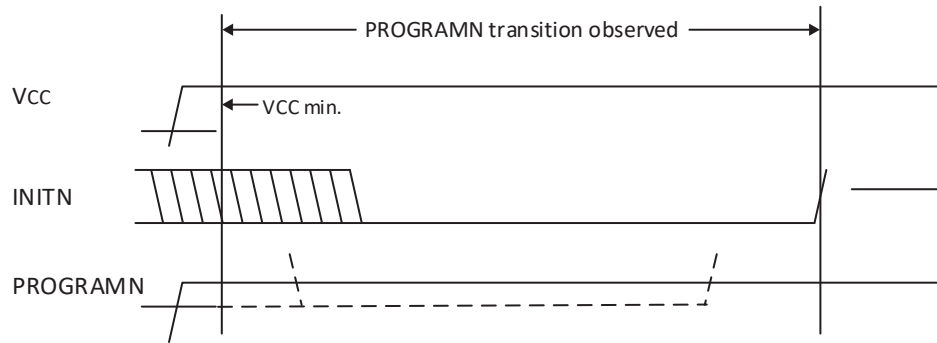

Figure 4.5. Period PROGRAMN is Always Observed
- PROGRAMN is active during power-up, even when PROGRAMN has been reserved as a general purpose I/O. Do not allow any input signal attached to PROGRAMN to transition from high to low at a frequency greater than the VCC (min) to INITN rising edge time period. High to low PROGRAMN assertions more frequently prevent the MachXO3L from configuring, causing the FPGA to remain in a continuous RESET condition. See Figure 4.5.